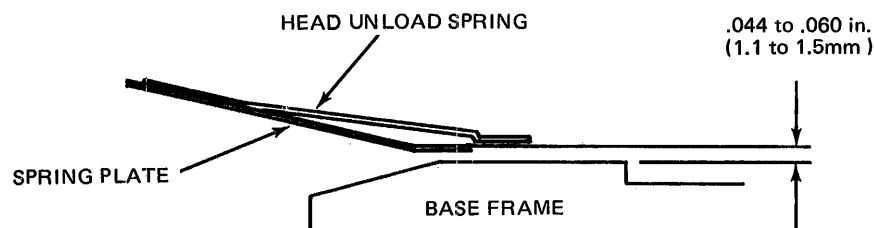

Figure 4-4 Position of the Spring Plate
- c. Check with a feeler gauge that the clearance between the spring plate and the surface of the base frame is .044 to .060 inches (1.1 to 1.5 mm) (see Figure 4-4).